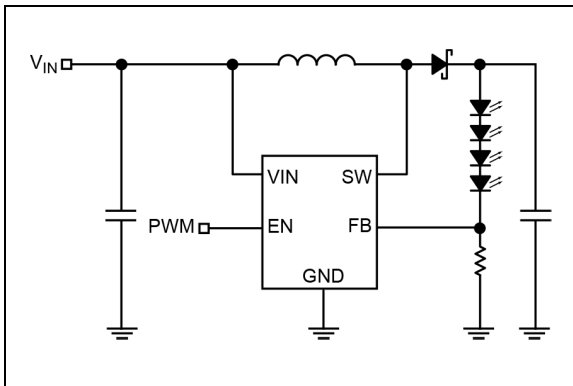

FIGURE 5-1: PWM Dimming Method.
1. The PWM dimming control is implemented by applying a PWM signal on EN pin as shown in Figure 5-1. The MIC2287C is turned on and off by the PWM signal. With this method, the LEDs operate with either zero or full current. The average LED current is increased proportionally to the duty-cycle of the PWM signal. This technique has high-efficiency because the IC and the LEDs consume no current during the off cycle of the PWM signal. The typical PWM frequency should be between 100 Hz and 10 kHz.